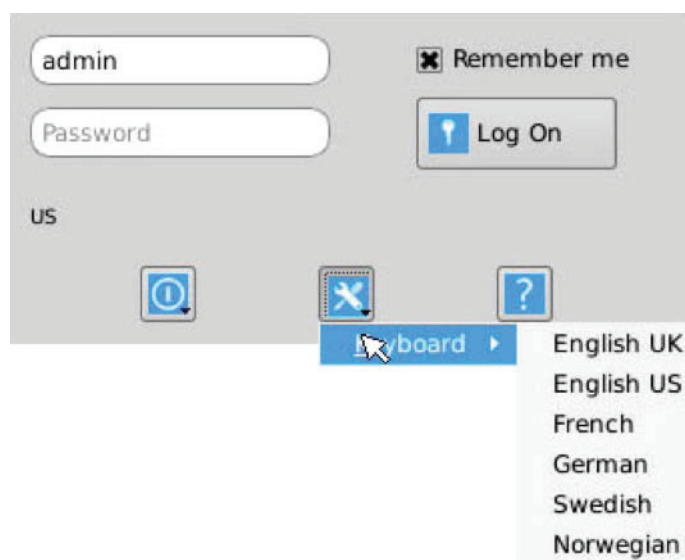

FIGURE 8-3. SETTING SYSTEMS KEYBOARD TYPE
- System Preferences: This button has a drop down menu that allows the user to define system preferences for the Emerald SE Receiver. Figure 8-3 shows how the keyboard type can be selected.